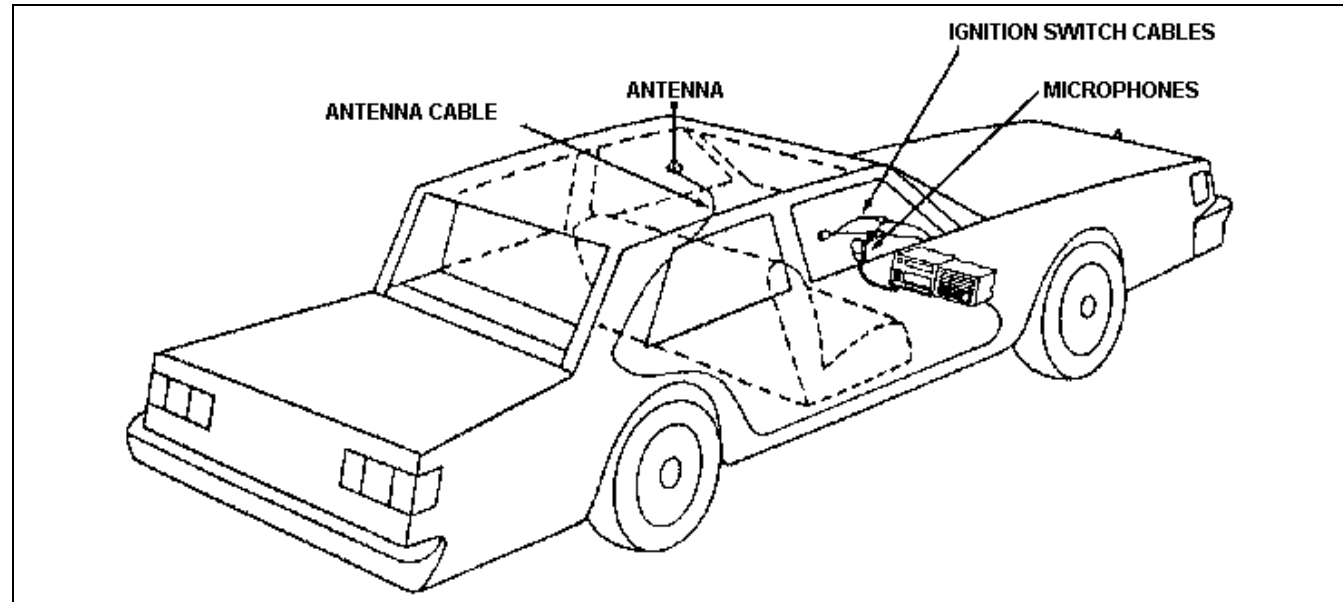

FIGURE 8 - TYPICAL CABLE ROUTING
If an existing hole is not conveniently located for the passage of the power cable through the firewall, drill a 1-1/8-inch hole and insert the rubber grommet provided. Leave at least 18 inches of slack in the plug end of the cables next to the radio. A typical cable routing diagram is shown in Figure 8.
1. Starting with the plug end of the power/control cable, run the black control cable to the control unit location and the red power cable to the vicinity of the battery. Drill a No. 9 (3/16-inch) pilot hole and connect the short black power cable to a good vehicle ground with the 1/4 x 5/8-inch hex-head self-tapping screw and the two external tooth lockwashers. The external tooth lockwashers are placed on each side of the black power cable ring terminal. Refer to Figure 8, Cable Routing Diagram.